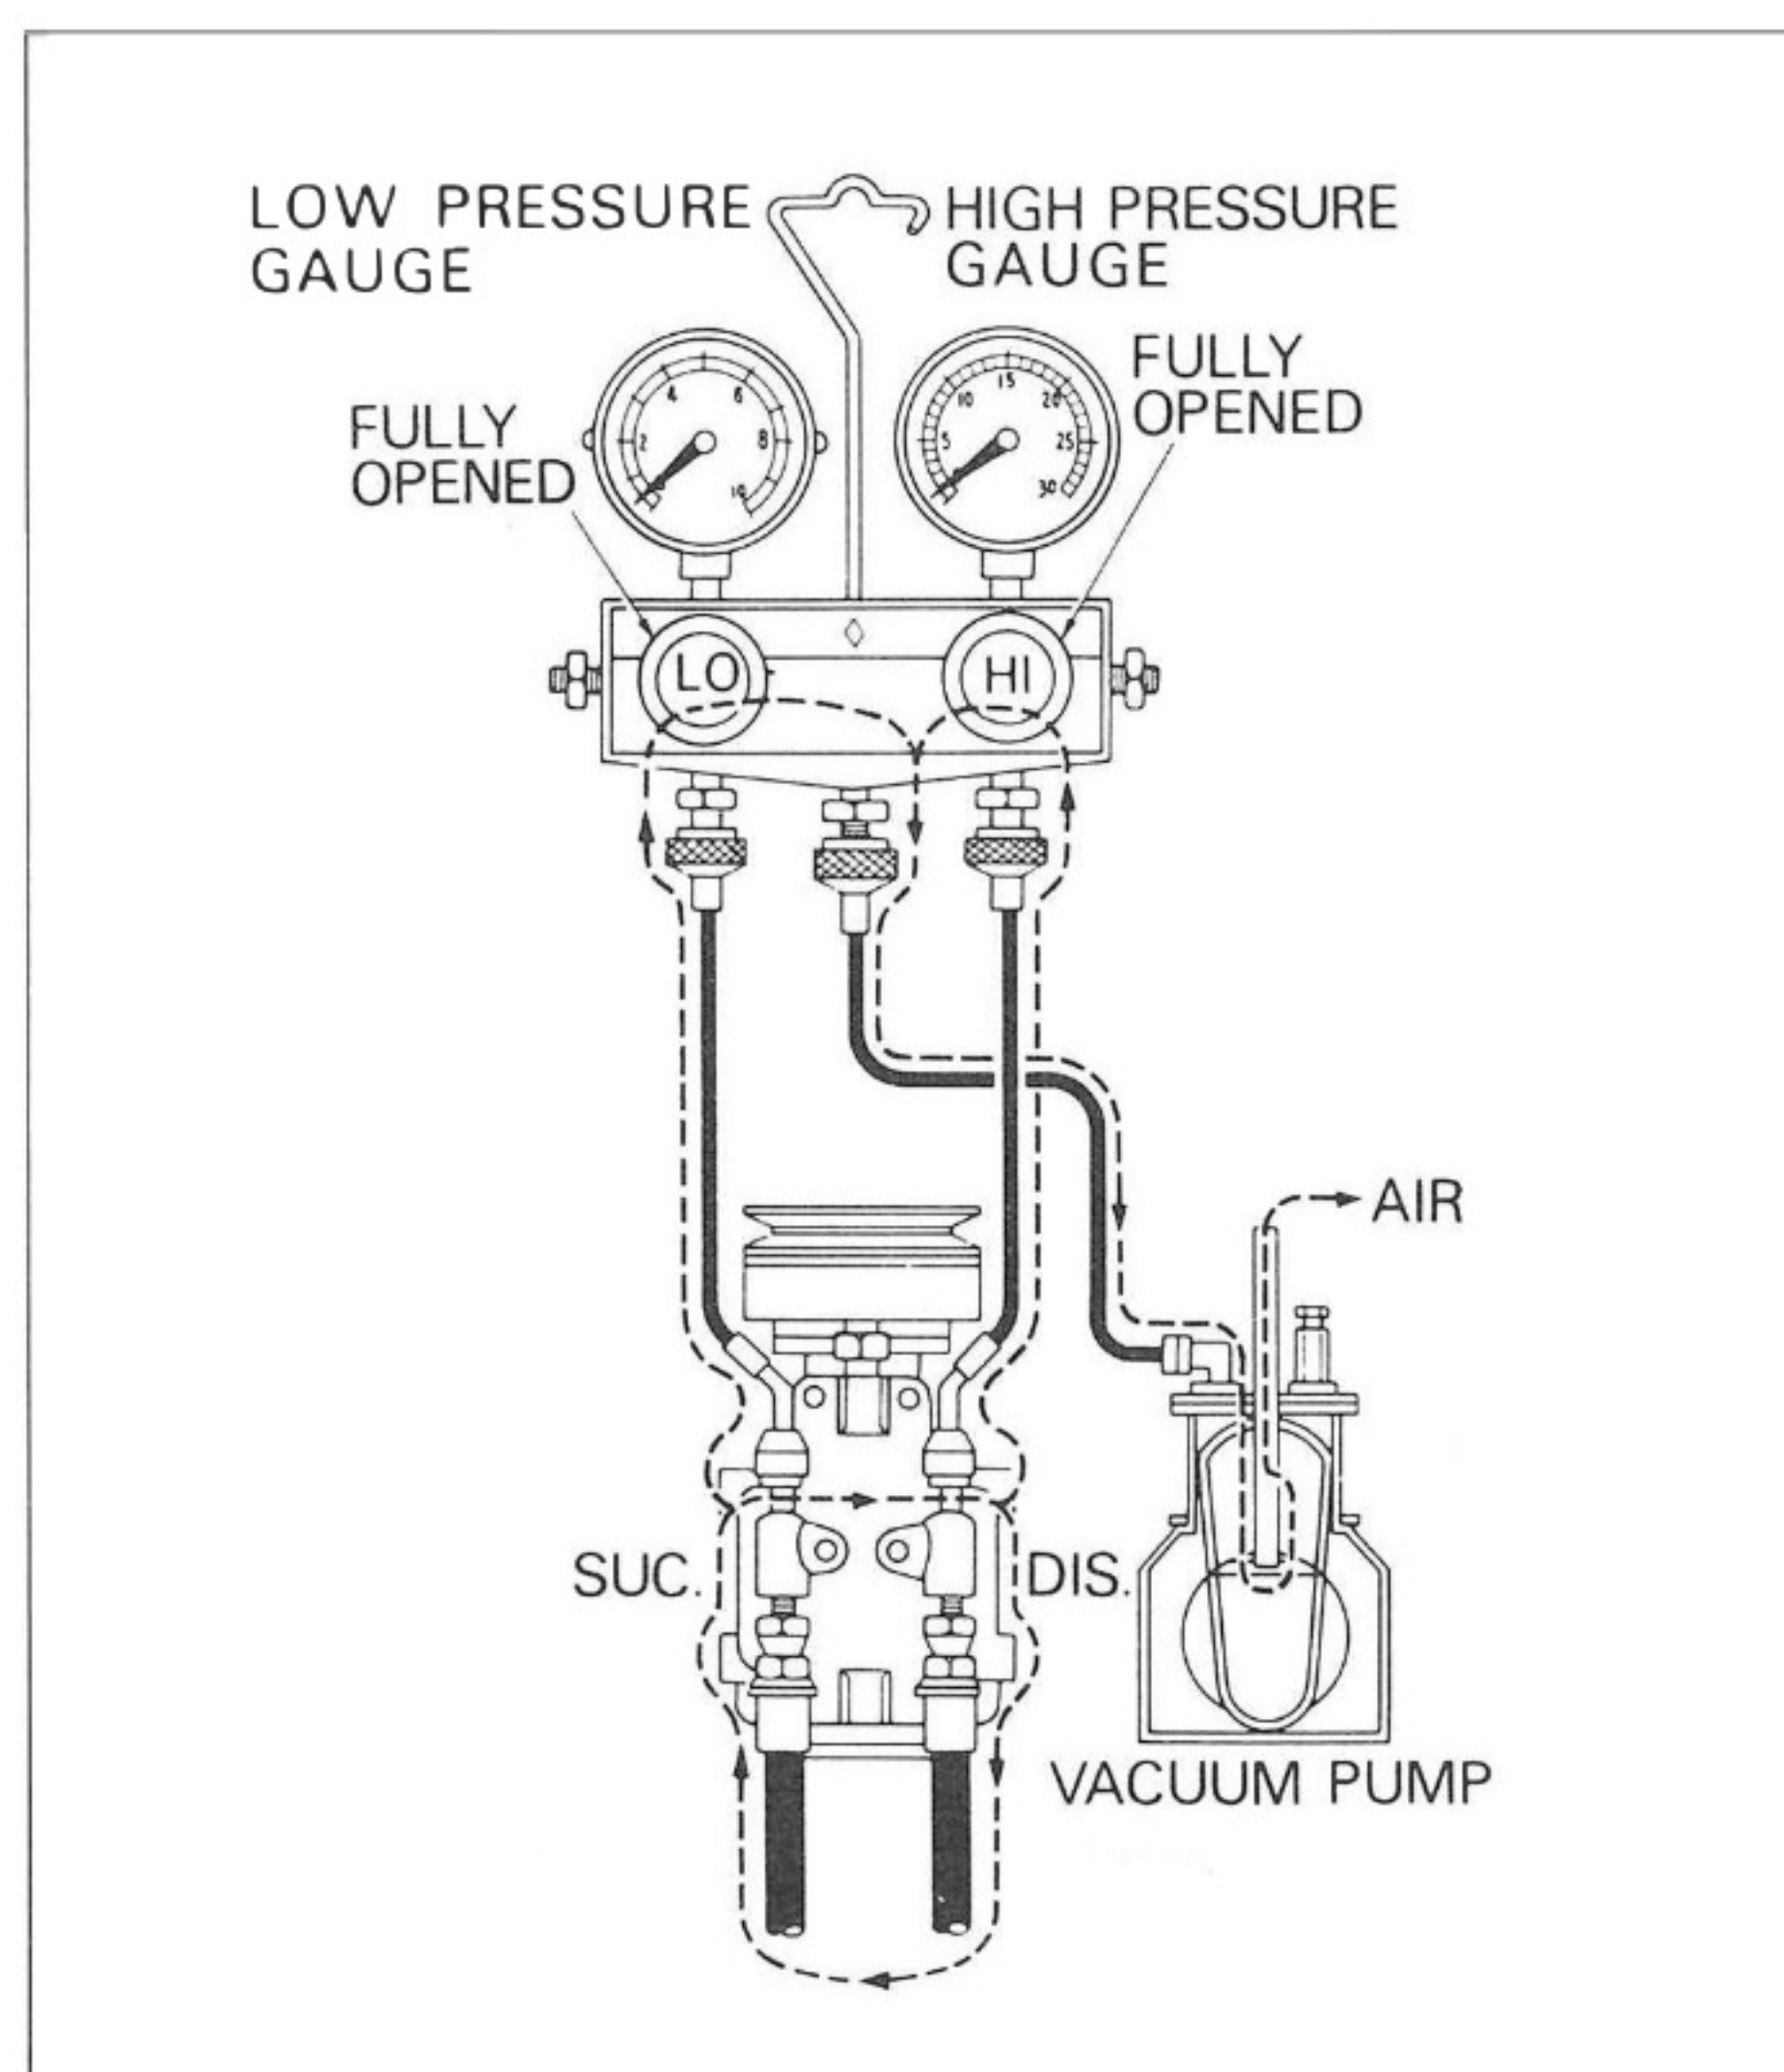

Fig. 2
- C) Install the center charging hose of gauge manifold set to the vacuum pump inlet. See Fig. 2.